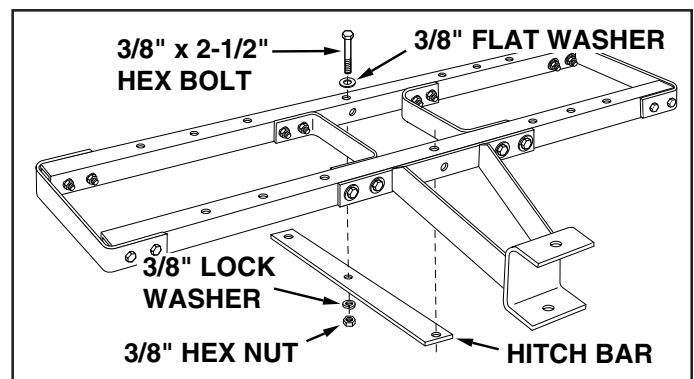

FIGURE 5
6. **For tandem cultivators only.** Assemble the hitch bar to the cultivator frame using two 3/8" x 2-1/2" hex bolts, 3/8" flat washers, 3/8" lock washers and 3/8" hex nuts. **Tighten.** See figure 5.